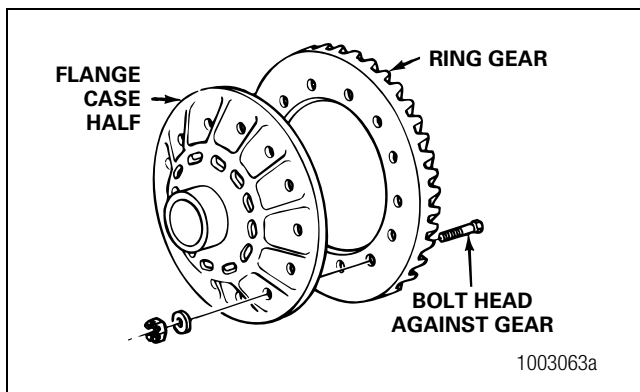

Figure 5.13
5. Install the bolts, nuts and washers that secure the ring gear to the flange case half. Install the bolts from the gear side of the assembly. The bolt heads must be against the ring gear. Figure 5.13.